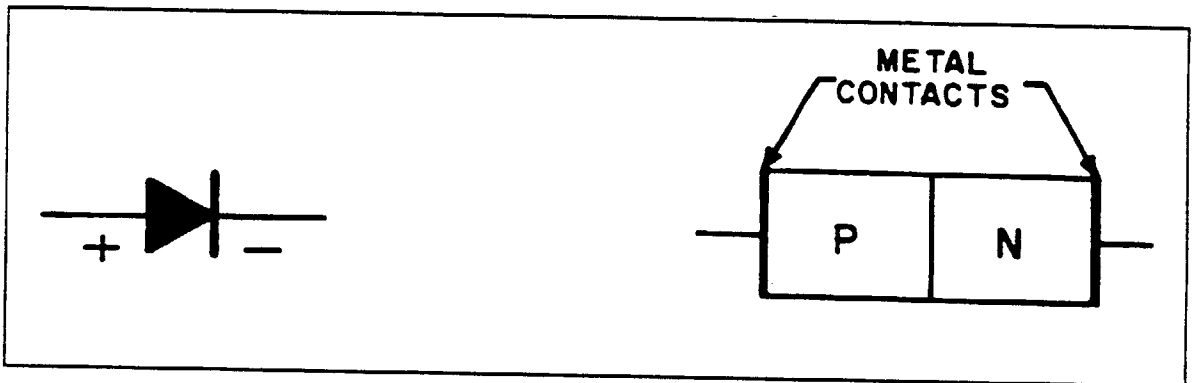
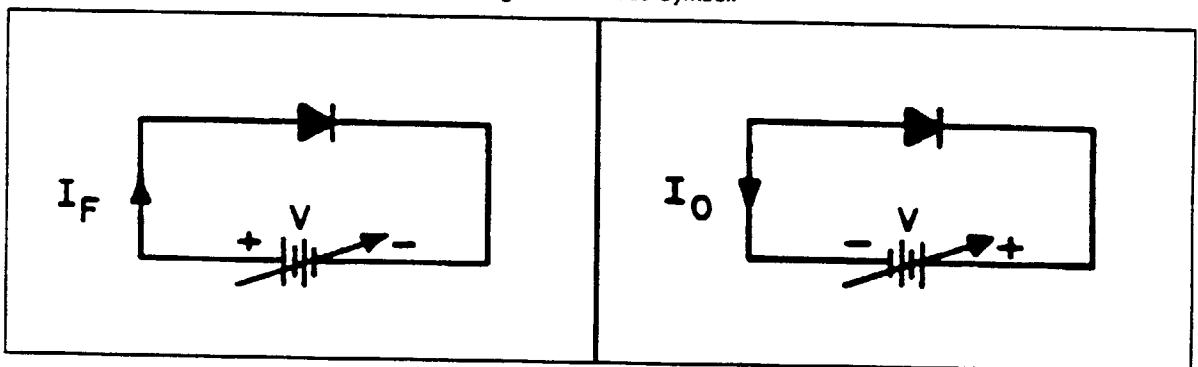

Figure 8-1. Diode Symbol.
Figure 8-2.
A semiconductor diode is formed by the creation of a junction between P-material and N-material within a crystal during the manufacturing process. The standard semiconductor diode has in its symbol an arrow to indicate the direction of forward current flow, as shown in Figure 8-1. With positive voltage applied to the P-material and negative voltage applied to the N-material, the diode is said to be forward biased, as shown in Figure 8-2. The current (I_F) increases rapidly with small increases in applied voltage (V).